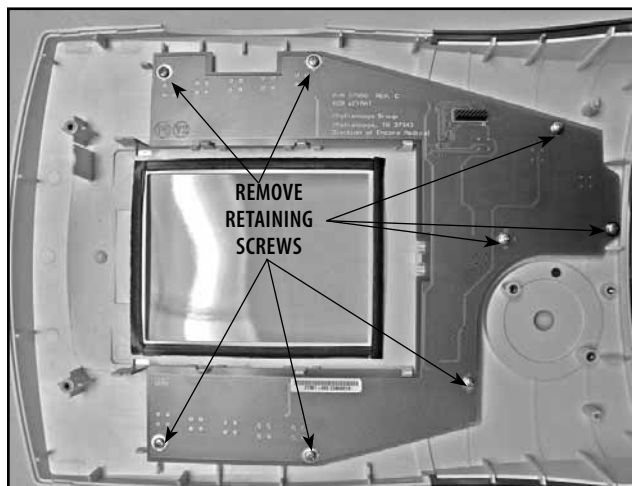

FIGURE 6.31
4. Remove eight Keymat PC Board Retaining Screws. See Figure 6.31.